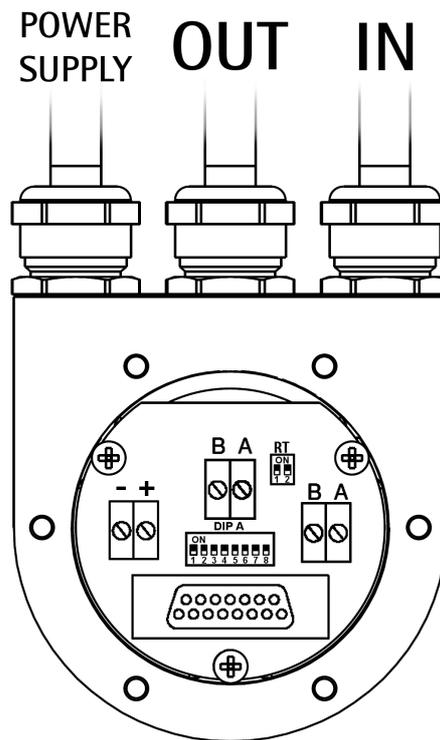

Figure 1 - Connection cap
4.4 Bus termination resistance (Figure 1)
4.6 Node number: DIP A (Figure 1)